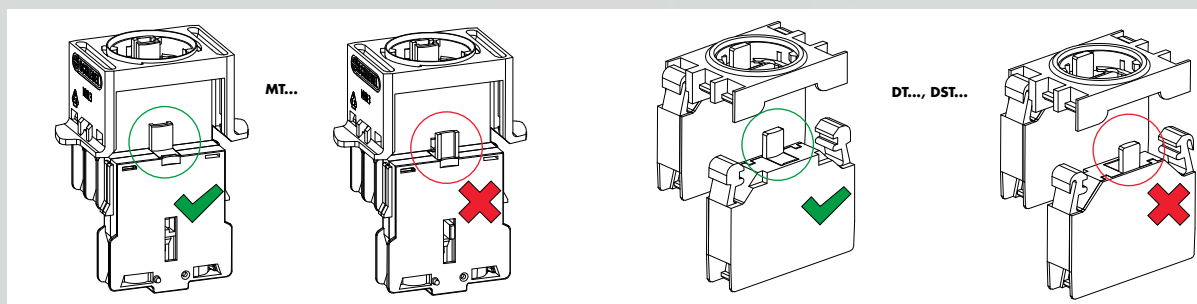

Fig. 1: Correct assembly of the modular contact blocks MT..., DT..., DST...
- 7) Modular contact blocks (MT... DT..., DST...) must first be correctly aligned and snapped into a module holder before snap-fitting them to the actuator. (Fig.1)).